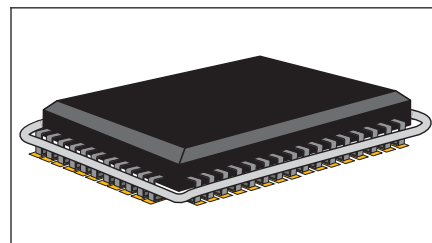

Figure 1 Wrap Solder
5. Wrap a length of .025 or .031 gauge solder wire once around the leads of the component. (See Figure 1.)